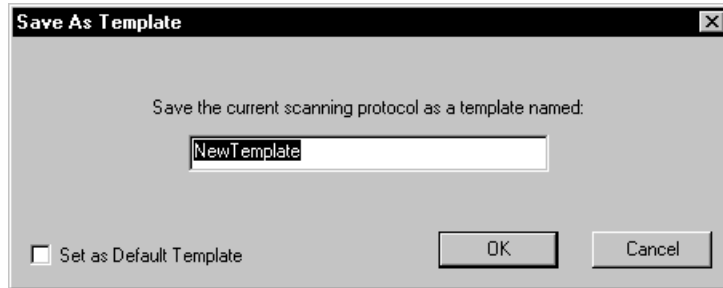

Figure 3-11. The Save As Template window.
4. Choose **Save As Template** from the Templates menu. The Save As Template window appears (figure 3-11).